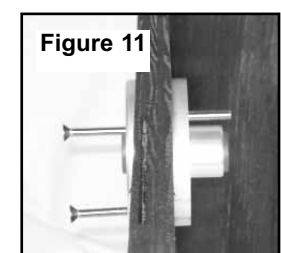

Figure 11
STEP 4: Once Outside Flange and Inside Flange are mounted, install (3) #10 flat head wood screws through Inside Flange. This will hold the Inside Flange in place in case of removal in the future (see figure 11) (NOTE: Wood screws should not be longer than the thickness of the console).